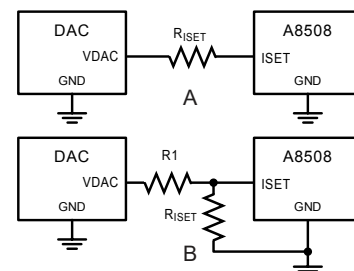

Figure 17. Typical application simplified diagram of voltage LED current control using a DAC to control LED current.
The A8508 can also be dimmed by using an external DAC or other voltage source applied either directly to the ground side of the R_{ISET} resistor or through an external resistor to the ISET pin (see figure 17). The ISET current can be varied in the range between 34 μA and 130 μA.
- For a single-resistor configuration (panel A of figure 17), the ISET current is controlled by the following formula:
- For a dual-resistor configuration (panel B of figure 17), the ISET current is controlled by the following formula: